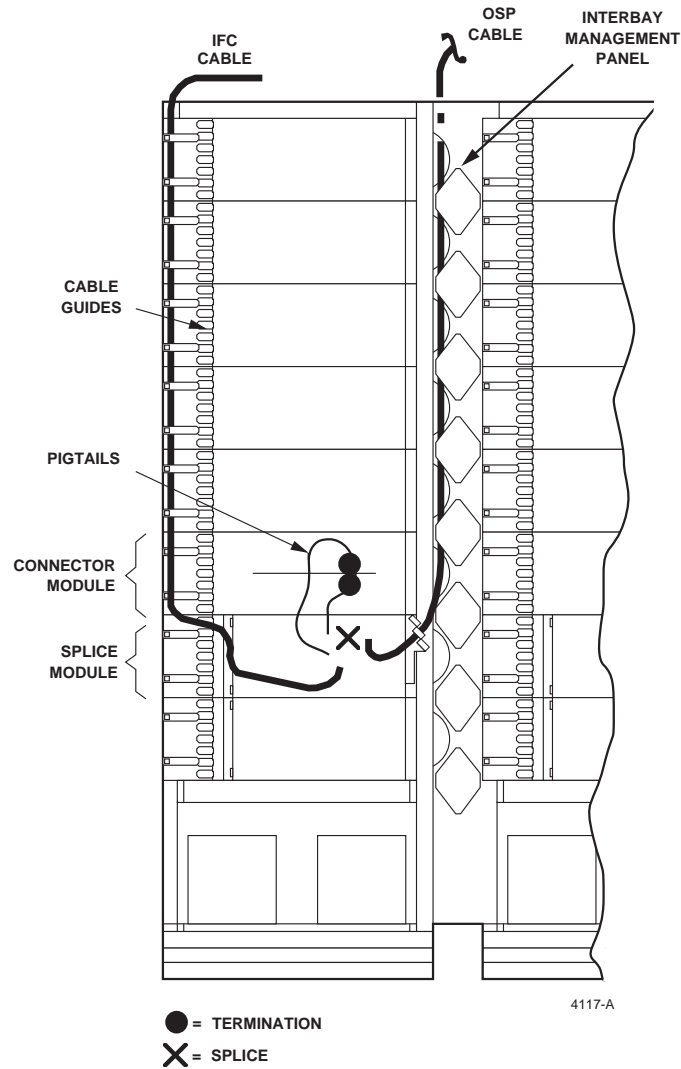

Figure 1. 7-Inch FDS
1.01 The ADC 7-Inch Fiber Distribution System (FDS) (Figure 1) provides the termination, splicing, and storage requirements of a large fiber optic cable system. The splice module is compatible with the 7-Inch FDS or it can be used with or as a replacement for the Lucent LGX splice modules.